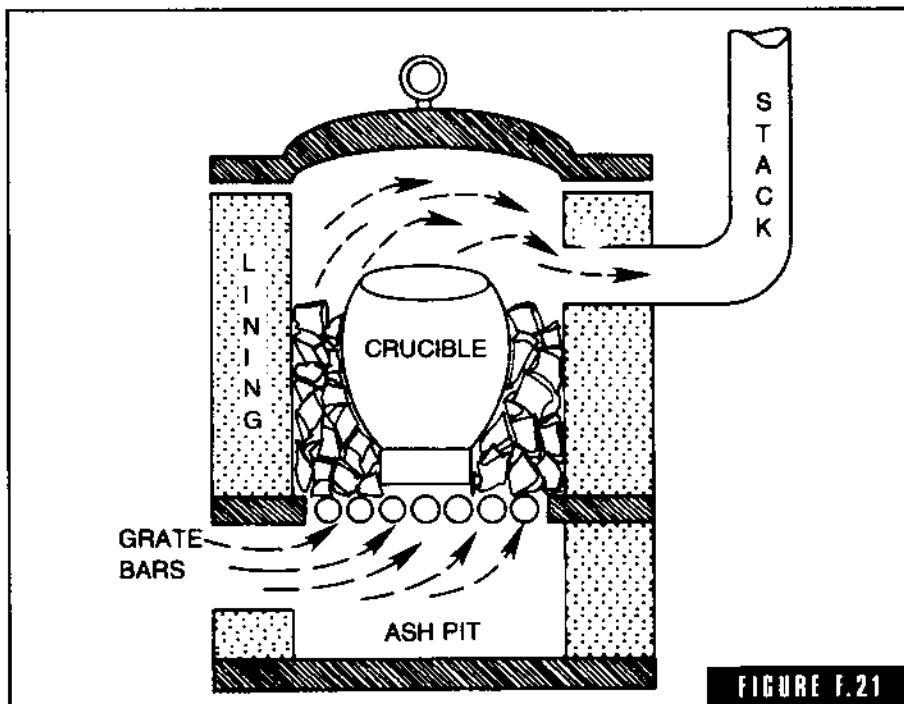

FIGURE F.21
**furnace, passive** A charcoal- or coal-fired nonferrous furnace which depends upon its blast air for combustion by the draft created by a chimney or stack (Fig. F-21). The fuel and crucible rest on a grate.